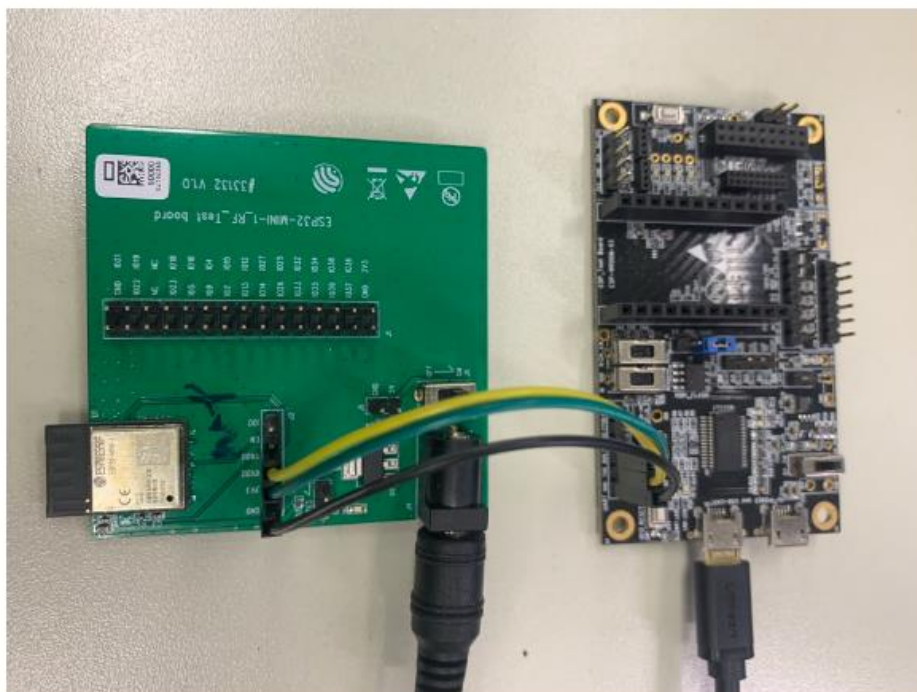

Figure 2: Hardware Connection
- Solder the WT1000 module to the RF testing board as shown in Figure 2.